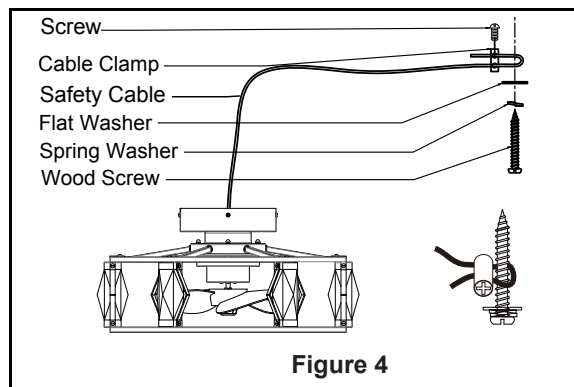

Figure 4
- ☐ Attach the safety cable to the ceiling. Use a wood screw to securely fasten the safety cable directly to the wood structure of the ceiling (Figure 4)